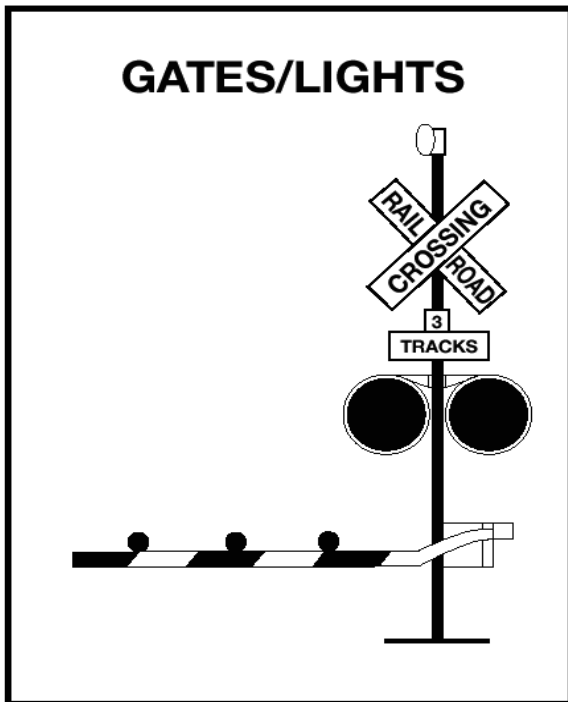

Figure 10.8
**Flashing Red Light Signals** - At many highway-rail grade crossings, the crossbuck sign has flashing red lights and bells. When the lights begin to flash, stop! A train is approaching. You are required to yield the right-of-way to the train. If there is more than one track, make sure all the tracks are clear before crossing. See Figure 10.8.
**Gates** - Many railroad-highway crossings have gates with flashing red lights and bells. Stop when the lights begin to flash and before the gate lowers across the road lane. Remain stopped until the gates go up and the lights have stopped flashing. Proceed when it is safe. If the gate stays down after the train passes, do not drive around the gate. Instead, call your dispatcher. See Figure 10.8.